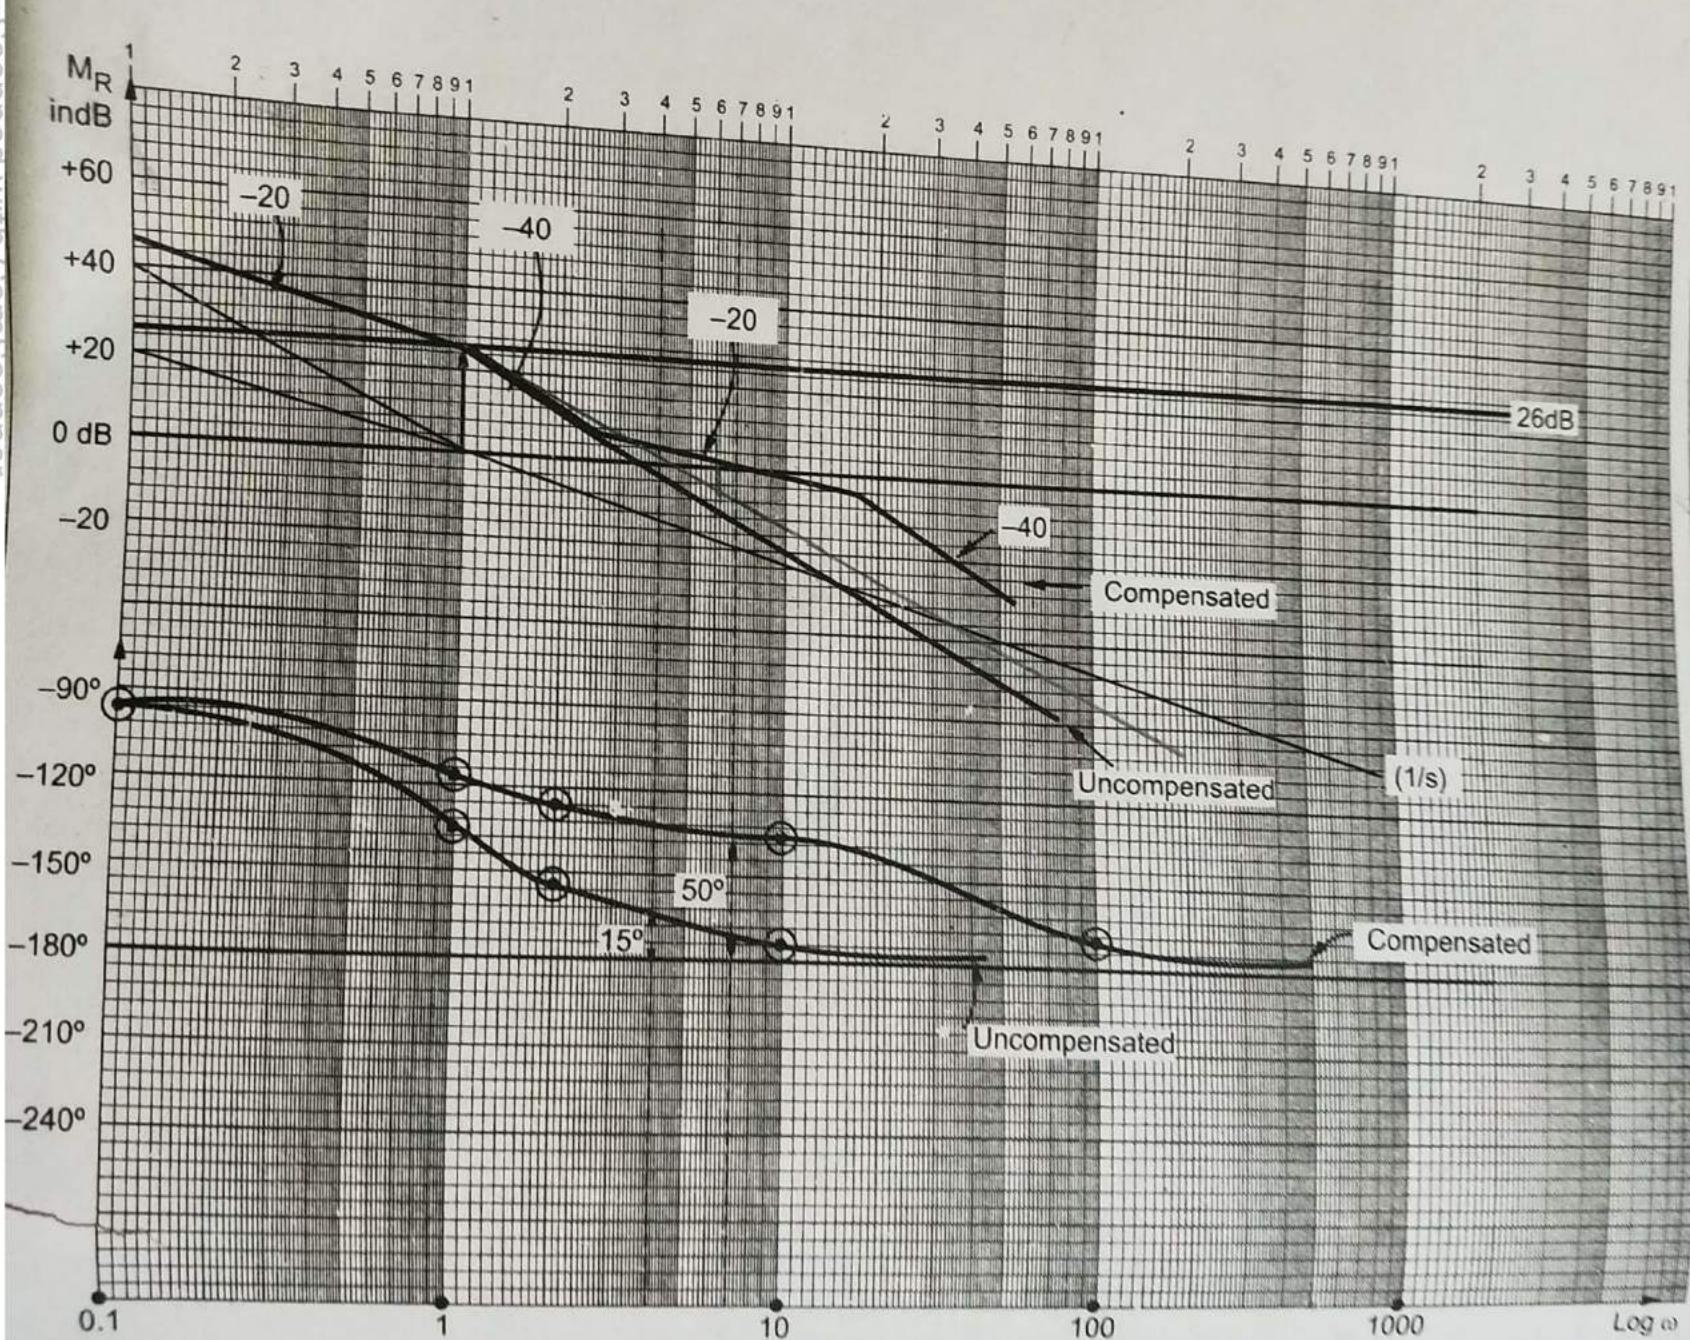

FIG. 13.10
Step 2 : Sketch the Bode plot of $G_1(s)$ which is shown in the Fig. 13.10.
From the Fig. 13.10,
Refer Fig. 13.10 and find frequency at which gain of the uncompensated system is -6.78 dB , this is ω_m .
From Fig. 13.10, $\omega_m = 6 \text{ rad/sec}$
Draw the Bode plot for this transfer function and obtain the values of G.M. and P.M. The plot is drawn on the same semilog paper shown in the Fig. 13.10.
From the Fig. 13.10, for compensated system